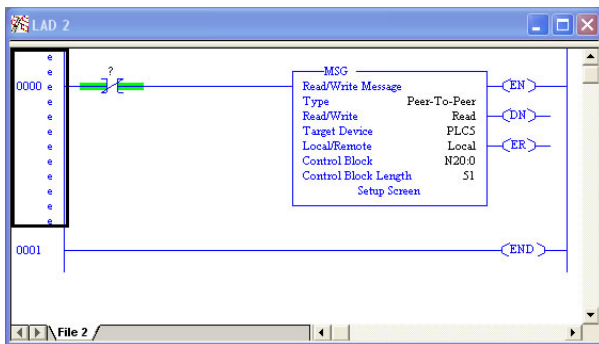

Figure 123: PLC Program after MSG Instruction Configuration
- Close the dialog box. At this point, the program should appear as shown in Figure 123.